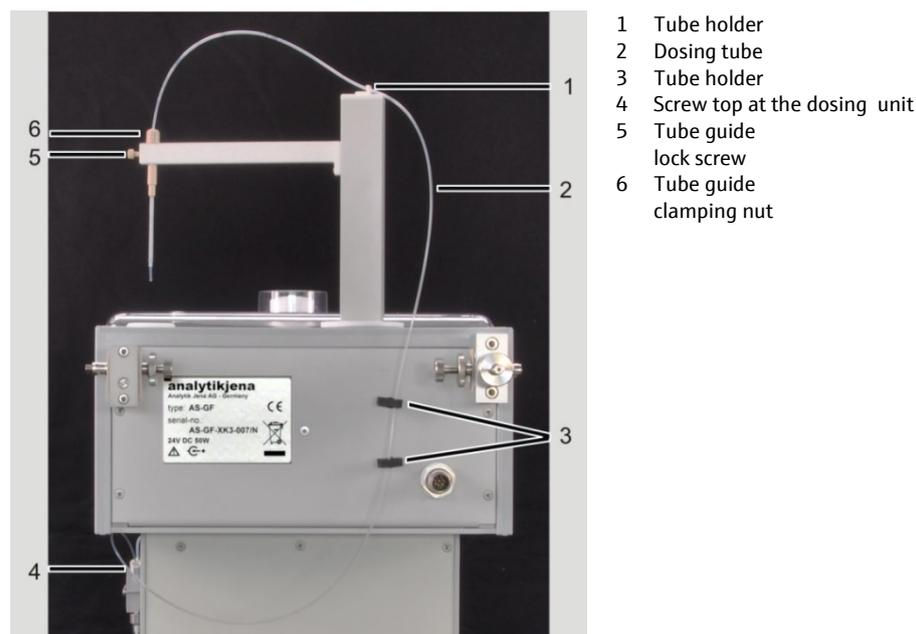

Fig. 60 Dosing tube at the AS-GF
1. Loosen the clamp nut at the tube guide (6 in Fig. 60) and remove the dosing tube by pulling upwards.
1. Loosen the clamp nut at the tube guide (6 in Fig. 60) and pull out the tube. Remove the tube from the tube holders at the sample arm and the back of the autosampler (1, 3 in Fig. 60).
2. Detach the screw top from the T valve of the dosing unit (4 in Fig. 60).